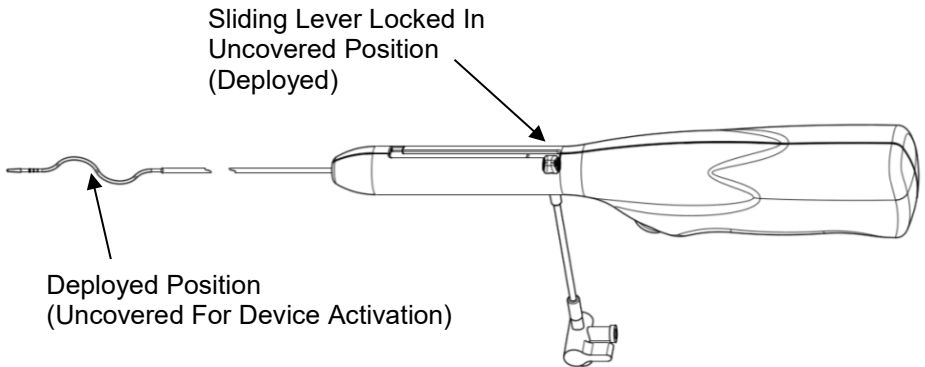

Figure 4
12. Advance the flexible tip up to the distal most extent of the clot. Uncover the sinuous wire by unlocking, fully retracting the sliding lever and rotating the sliding lever until an audible "click" is heard (refer to Figure 4). Confirm device positioning within the treatment site via fluoroscopy. Press the ON/OFF switch to activate rotation.
11. In a graft, advance the flexible tip up to the venous anastomosis. **Warning: Do not advance it beyond the anastomosis.** In a fistula, advance the flexible tip up to the central most extent of the clot. Uncover the sinuous wire by unlocking, fully retracting the sliding lever and rotating the sliding lever until an audible “click” is heard (refer to Figure 4). Confirm device positioning within the fistula or graft via fluoroscopy. Press the ON/OFF switch to activate rotation. **Note: Caution should be taken while uncovering the wire to avoid advancing the wire into the clot and past the anastomosis.**